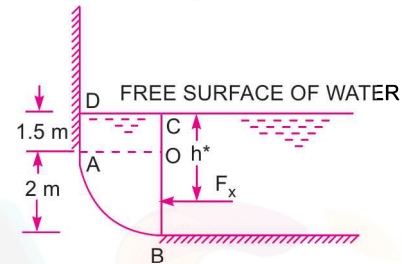

Fig. 3.29
**Problem 3.22** Compute the horizontal and vertical components of the total force acting on a curved surface  $AB$ , which is in the form of a quadrant of a circle of radius 2 m as shown in Fig. 3.29. Take the width of the gate as unity.